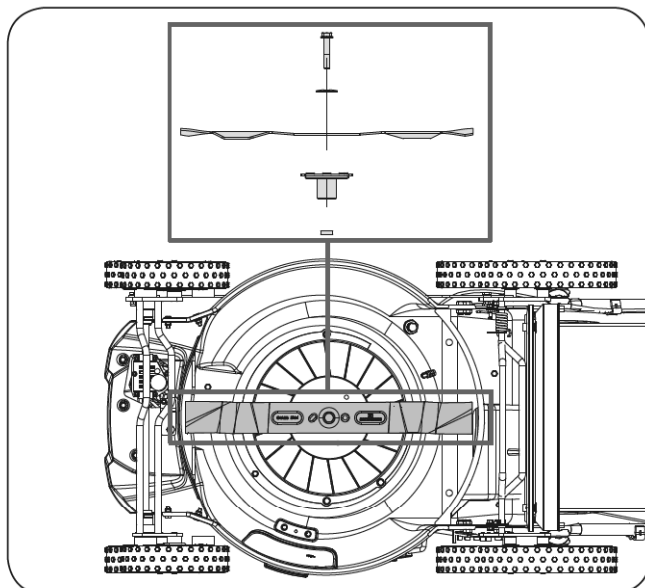

Figure 22
1. Remove the blade, saving all mounting hardware. Examine the blade support and blade bolt to see if there is damage. Examine the motor shaft to make sure that it is not bent. (See **Figure 22**)